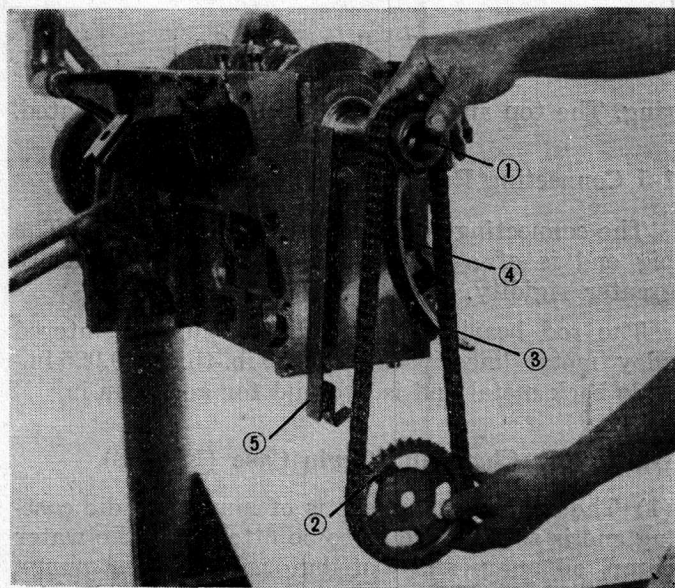

Fig. 73 Removing the Sprockets
same time remove the camshaft sprocket (2) and timing chain (3). (Fig. 73)
(9) Remove the chain tensioner lever (4) and side guide (5). (Fig. 73)
(10) Remove the crankshaft rear oil seal case.